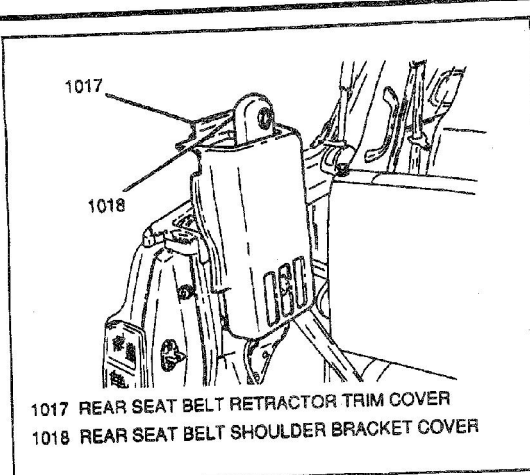

Figure 7—Rear Seat Belt Retractor Trim Cover—Two - Door Models
4. One screw and rear seat belt retractor trim cover (Figure 7).
1. Rear seat belt retractor trim cover to vehicle; secure with one screw (Figure 7).